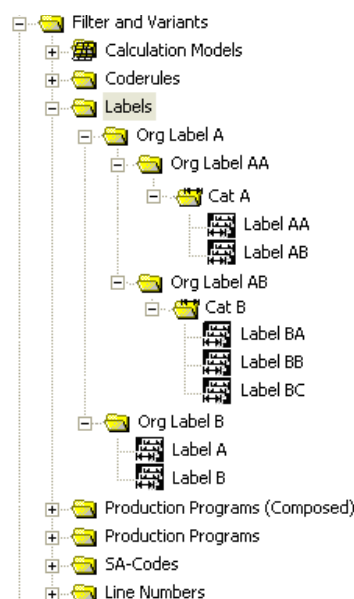

Figure 75: Structuring org Labels, Label Categories, and Labels
dialog displays the Labels/Label category within their respective structure. Please refer to the Figure 75.
1. Open the project library and select under **Filter and Variants** the **Label** entry. Select **New > Org Label** in the contextual menu. Please refer to the Figure 75 and Customization.
In Figure 75 “Org Label A” is new folder (“Org label”) and it contains two more org labels in it, “Org Label AA” and “Org Label AB”, “Cat A” is label category under org label “Org Label AA”, under label category “Cat A” there are two labels “Label AA” and “Label AB” are shown.